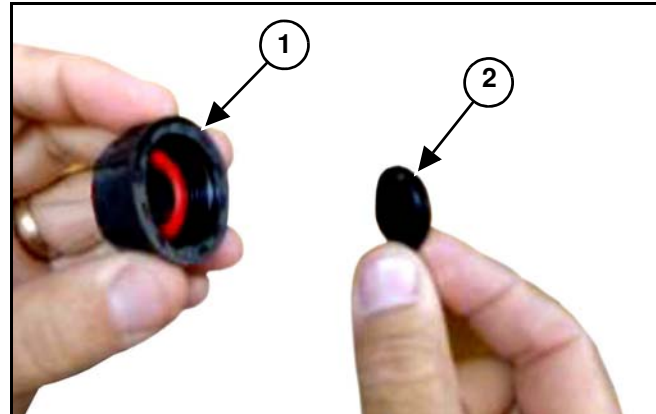
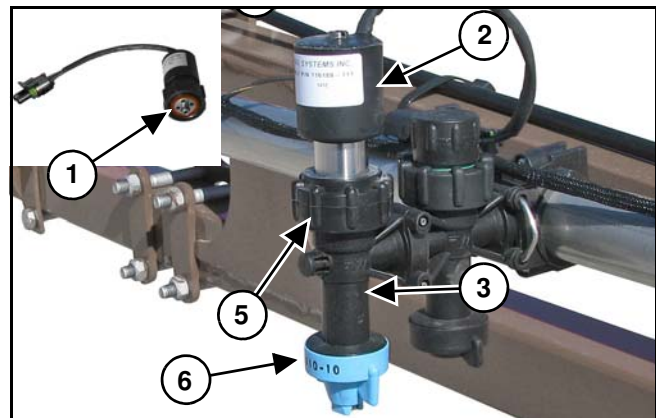

Figure 9
Figure 10
[Figure 9] - If equipped, remove and discard the drip check (1) and the diaphragm (2) from the nozzle bodies.
[Figure 10] - Install the O-ring (1) supplied with the kit. Install the nozzle valve assembly (2) onto the nozzle body (3). Rotate the nozzle valve assembly so that the wire (4) is close to the boom. Tighten the fly nut (5). Install the spray tip (6).
[Figure 9] - [Figure 10] - Repeat the procedures for all nozzle valve assemblies.